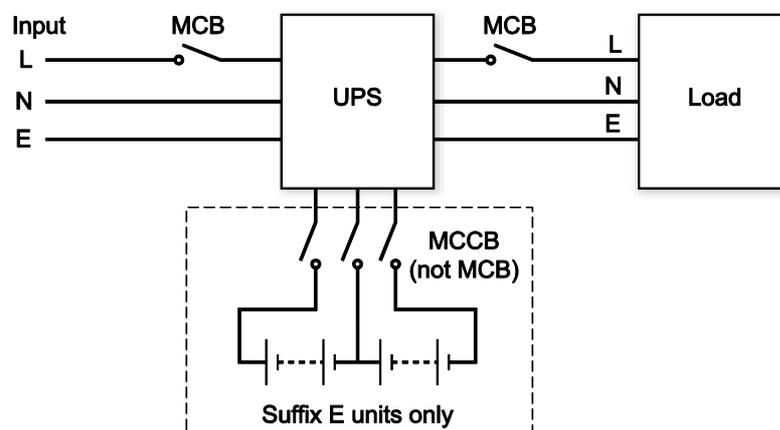

Figure 2 Power cable wiring configuration for a single UPS
- Always fit an MCB between the mains supply live line only and the UPS input (see Figure 2).
- If using external batteries, always fit a 3 pole MCCB, with a suitable d.c. voltage rating and breaking capacity, between the battery and the UPS (see Figure 2).
- Although it may not be absolutely necessary, we recommend you fit an MCB between the UPS and the load to protect the output load and cables in the event of a fault (see Figure 2). You may also wish to connect the UPS output to your load via a distribution unit (PDU).